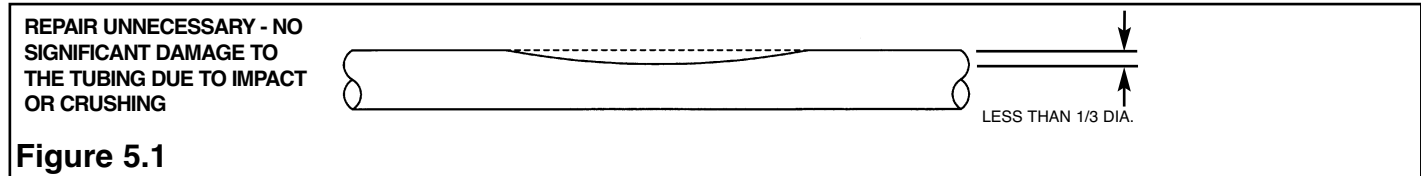

Figure 5.1
- No repairs or replacement of the tubing is necessary if the tubing is only slightly dented by crushing as indicated in Figure 5.1.